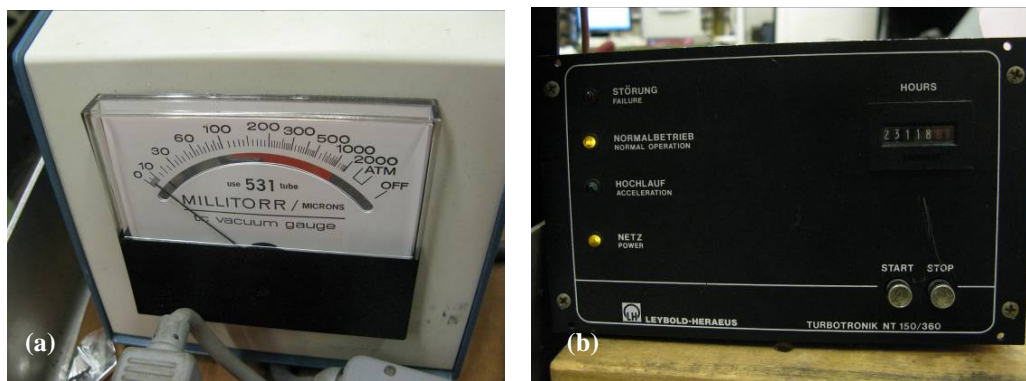
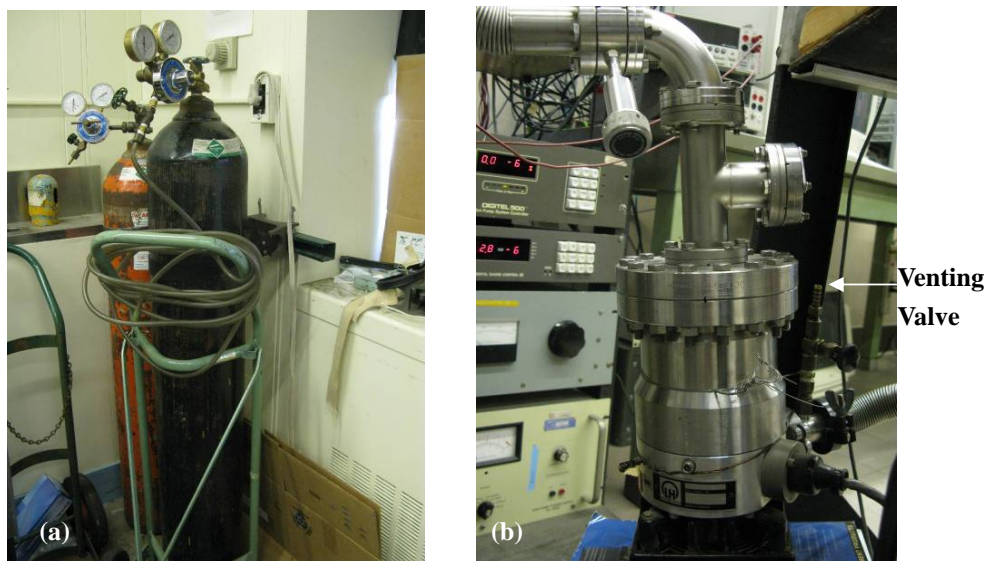

Figure 2.4 (a) The vacuum gauge and (b) the black panel controlling the turbo pump.
Figure 2.6 (a)The nitrogen and (b)the turbo pump (showing the venting valve).
9. When the vacuum level reaches about 100 mTorr (read from the gauge shown in Fig. 2.4(a)), open the turbo pump by pressing the start button on the black panel (Fig. 2.4(b)) on the pump rack (Fig. 2.4(b)).
10. When the ‘NORMAL OPERATION’ light on the black panel (Fig. 2.4(b)) is on, leave the turbo pump on overnight.
16. Bring the nitrogen (Fig. 2.6(a)) and connect the plastic tube to the venting valve (shown in Fig. 2.6(b)) on the turbo pump. Slightly open the flow of nitrogen.
17. Stop the turbo pump by pressing the stop button on the black panel (Fig. 2.4(b)) on the pump rack. Open the venting valve (shown in Fig. 2.6(b)) on the turbo pump.
3. Bring the nitrogen can (Fig. 2.6(a)) and wrap the plastic tube together with the right-angle valve (Fig 2.1(d)) using a plastic bag. Turn on the flow of nitrogen. See Fig. 4.1.